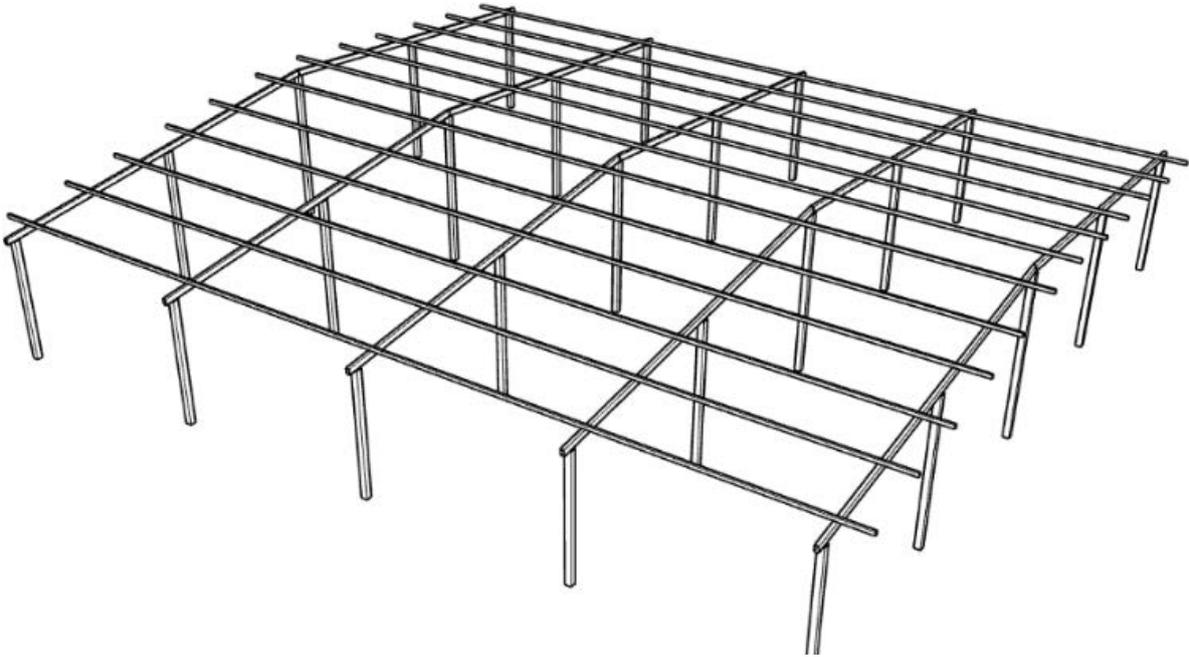

FIGURE 3
- The purlins are installed in turn, the installation effect is shown as Figure 3;